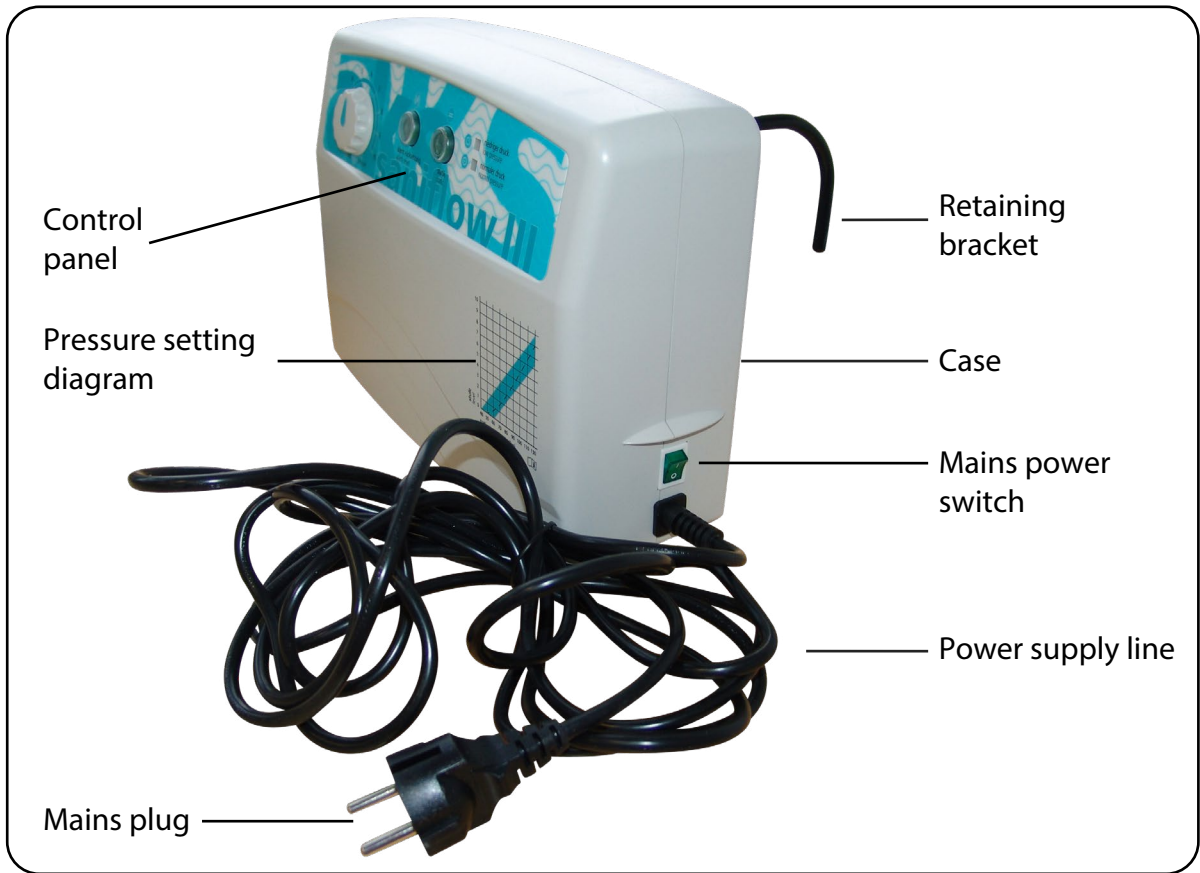
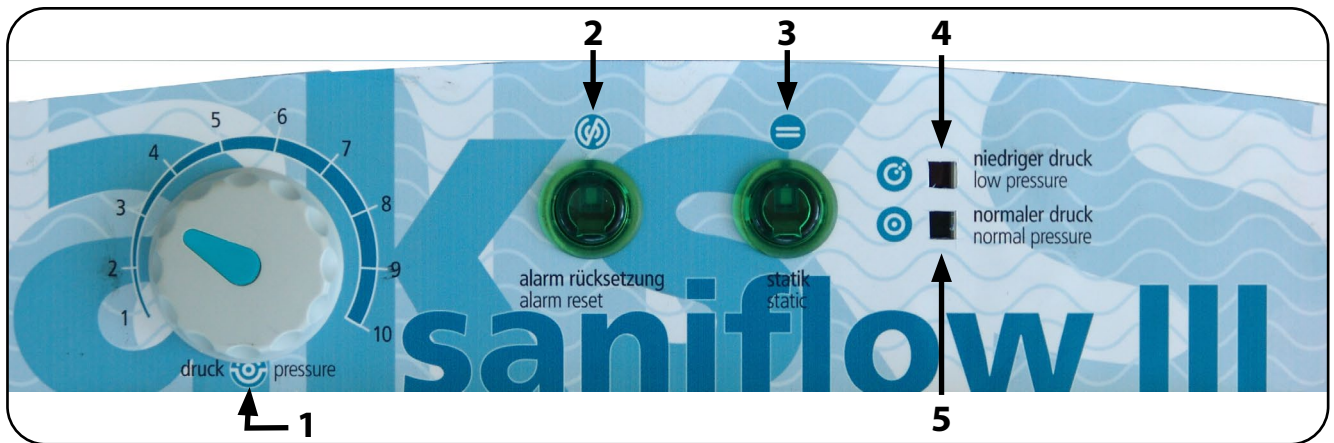
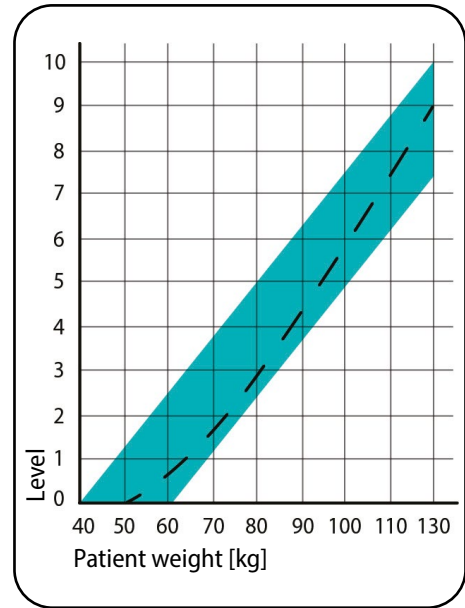

Fig 5.01 – Front view of pump unit
Fig. 5.1.01 – saniflow® III pump unit control panel
Fig. 8.1.01 – Power level setting
The pressure regulator on the pump unit's control panel (Fig. 5.1.01) is used to adjust the filling pressure in relation to the patient's weight, using a diagram (Fig. 5.01 and Fig. 8.1.01) as a guideline. This can be adjusted continuously in a scale range of 1 to 10 to the individual patient's weight or current load situation. The mandatory hand test and readjustment of the filling pressure, if necessary, ensures optimum adjustment to the patient's specific characteristics (see chapter on Operation/use, section **Normal operation**).
A potential loss of pressure or pressure drop in the system is signalled by a visual "low pressure" alarm signal (Fig. 5.1.01) and by an acoustic alarm signal, thereby minimising the risk of the patient developing bedsores. To avoid continuous exposure to noise, the acoustic alarm signal can be switched off separately using the alarm reset button in the event of pressure loss (Fig. 5.1.01). The visual alarm signal continues to indicate the pressure loss until this is rectified.
The product can also be switched from alternating pressure mode to static operating mode and vice versa using the "static" button on the pump unit (Fig. 5.1.01). In static operating mode, both air chamber circuits in the alternating pressure mattress are filled simultaneously with the set filling pressure.
10. The pump unit has a suspension attachment (two retaining brackets) and four mounting feet on the underside (Fig 5.01 and Fig 5.02). Attach the pump unit to the foot end of the bed using the two folding retaining brackets, or place it on a flat surface next to the bed with the underside facing down.
13. Check that the mains power switch (green) of the pump unit is set to “off” (0). The mains power switch is located on the right-hand side of the case (Fig 5.01).
1. Switch on the pump unit using the mains power switch (Fig. 5.01). The operation indicator lamp in the mains power switch lights up green. At the same time, the red "low pressure" LED lights up and the alarm sounds (Fig. 5.1.01). Deactivate the acoustic alarm during the initial pumping by pressing the alarm reset button (Fig. 5.1.01).
2. Turn the pressure regulator (Fig. 5.1.01) to the scale value 10 so that the operating pressure in the alternating pressure mattress can build up.
3. Once the alternating pressure mattress has reached its operating pressure, the red LED "low pressure" goes out and the green LED "normal pressure" (Fig. 5.1.01) lights up.
4. Reactivate the acoustic alarm by pressing the alarm reset button (Fig. 5.1.01). The LED in the button goes out.
9. Next, adjust the power level. The optimum power level depends on several factors. These primarily include the weight of the patient and the patient's support area. The diagram (Fig. 8.1.01) can provide an initial guide value for the setting. This value is only a guide value for approximate pressure setting and it is not a precise value for the yield behaviour of the body.
To do this, press the "static" button (Fig. 5.1.01). The static operating mode is indicated by the LED in the "static" button lighting up. In this operating mode, the system regulates the internal pressure in both air chamber circuits of the alternating pressure mattress to the value that was set previously in alternating pressure mode.